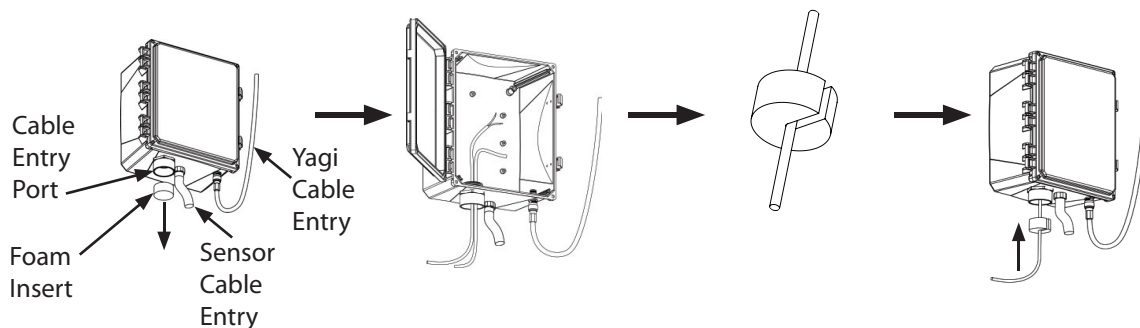
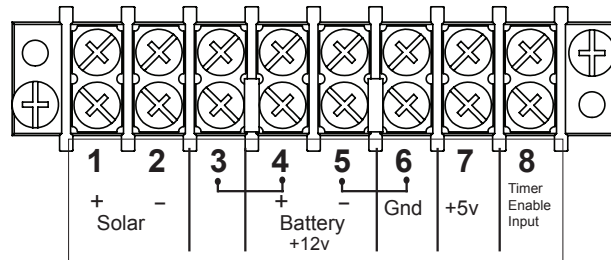
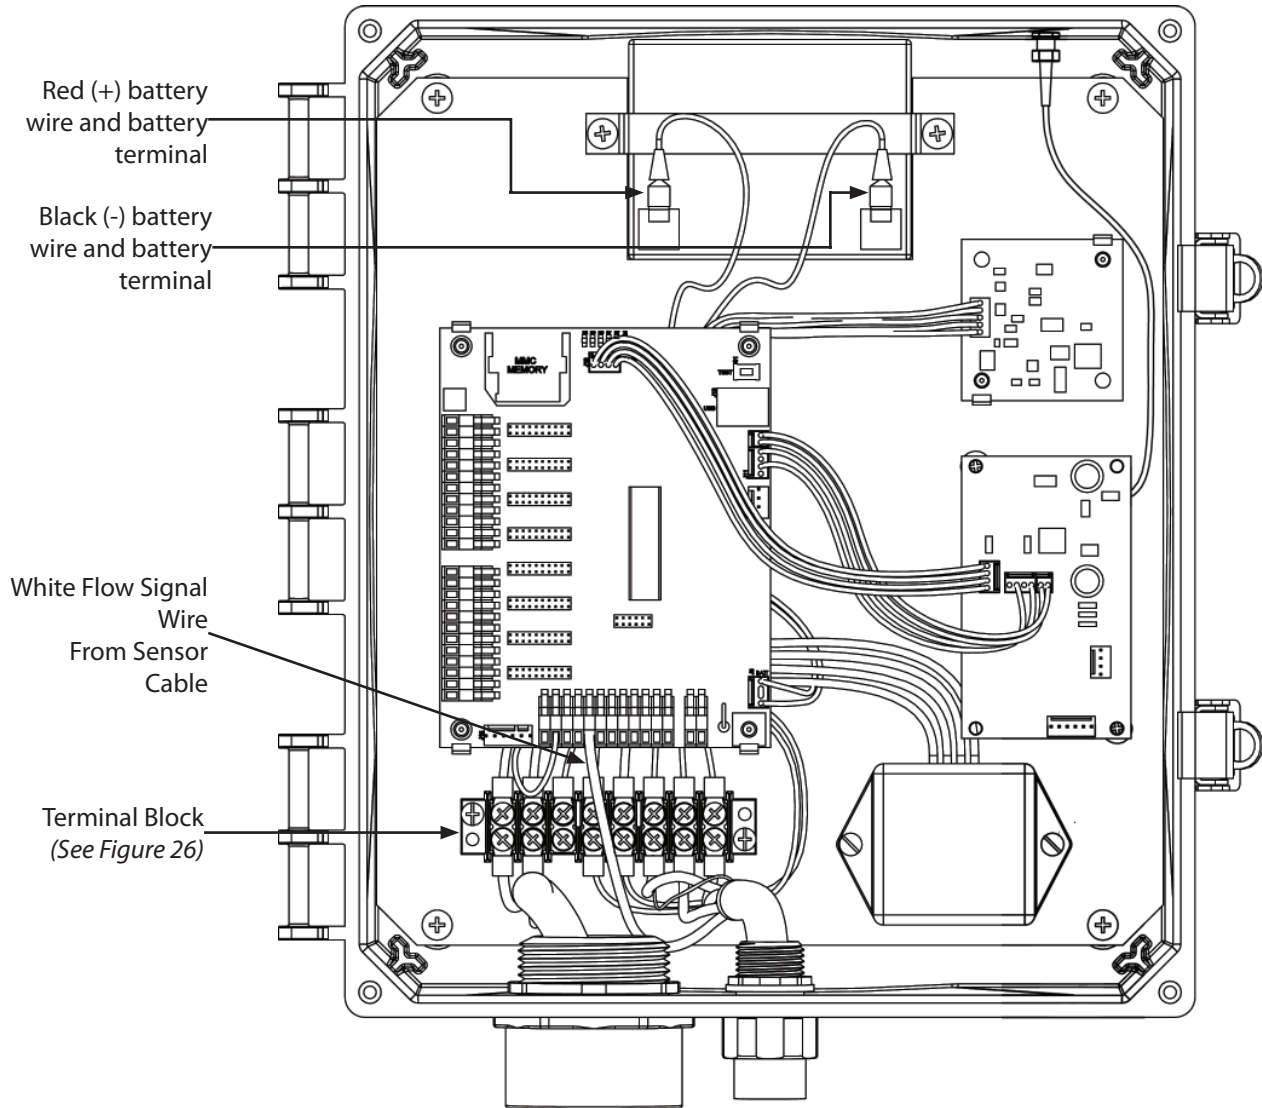

Figure 25: Cable Entry Illustrations
Figure 26: Terminal Block And Wire Associations
Figure 27: Electronics Enclosure Configuration With Dipole Antenna
Locate the foam insert in the cable entry port located at the bottom of the Electronics Enclosure. Remove the foam insert by grasping the insert and pulling it downward. Locate the cable from the RemoteCOM Solar Panel and insert them into the Electronics Enclosure through the cable entry port. Pull a sufficient amount of each cable through the port to allow each cable to be easily manipulated inside the enclosure. Reinsert the foam by first sliding both cables into the slot in the foam, then push the foam into the cable entry port, sealing the port. (See Figure: 25) Locate the cable from the Yagi antenna and screw it into the bulkhead connection at the bottom right of the enclosure. To attach the Sensor Cable, bore a hole in the bottom of the enclosure next to the cable entry port of sufficient size to accommodate the user-selected cable enclosure system.
Attach the sensor cable from the RC20 Mc Propeller Transmitter to the Electronics Enclosure through a user-supplied water-tight connection as shown in *Figure: 25*. The sensor cable is user-supplied and will typically have five wires: black ground, shield wire, red +5V, green timer cable and white flow signal. See *Figure 26* below for a diagram of the following sensor cable connections.
Important Note: The White flow signal wire is to be connected to the pc board at digital input 2 (gray terminal) 5th from left. (See *Figure: 25*)
1. Locate the power cable from the RemoteCOM Solar Panel. The power cable has two wires: a red (+) wire and a black (-) common wire. Next locate the terminal block positioned in the lower-left corner of the Electronics Enclosure. (See *Figure 26*) Attach the red (+) wire to terminal 1. Attach the black (-) common wire to terminal 2. After all power and sensor cable connections have been properly attached, locate the battery leads near the battery mounted at the top of the enclosure. Attach the red (+) wire to the positive battery terminal, and the black (-) wire to the negative battery terminal. (See *Figures: 27 and 28.*)